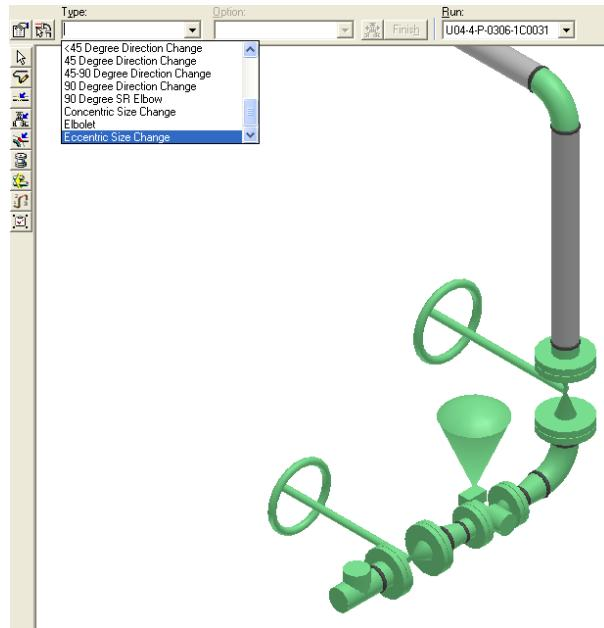

Figure 82: Eccentric Size Change Option in the Type Drop-Down List
37. Select the **Eccentric Size Change** option in the Type drop-down list on the **Insert Component** ribbon, as shown in Figure 82.